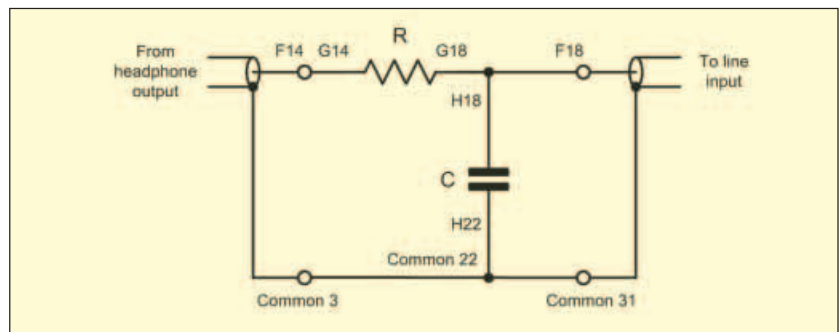

Fig.7.18. Circuit diagram for Practical Investigation 7.1
**Circuit diagram:** See Fig.7.18